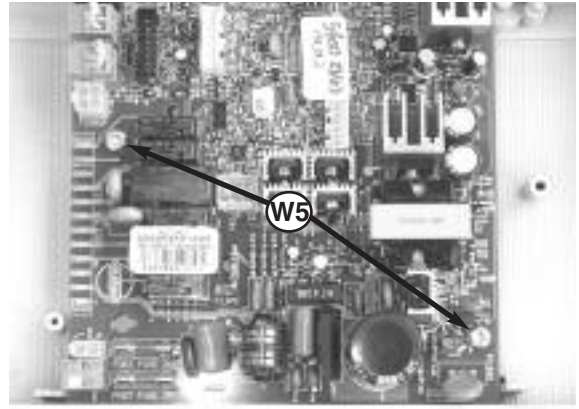

Fig. 110
8. To remove the main PCB disconnect all electrical connections and remove the two screws **W5** (see Fig. 110);